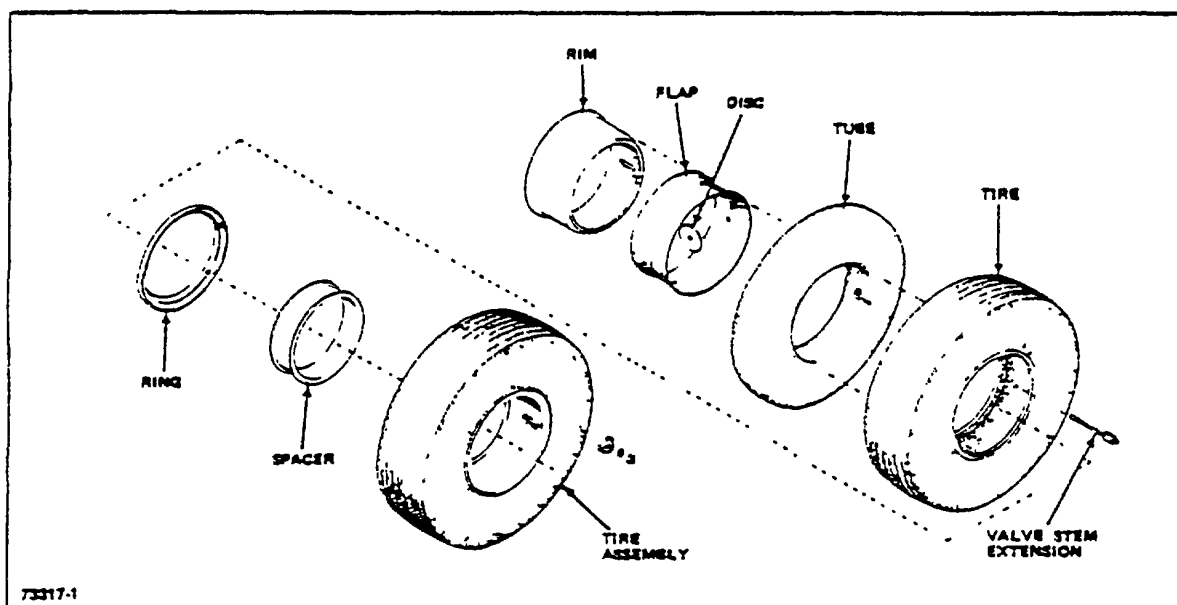

Figure 6-1. Dual Tire Assemblies
2. Remove nuts, washers, and clamps (Fig 6-1) that secure tire rim to drive wheel hub; remove the tire and rim assembly. Remove the spacer and second tire and rim assembly.